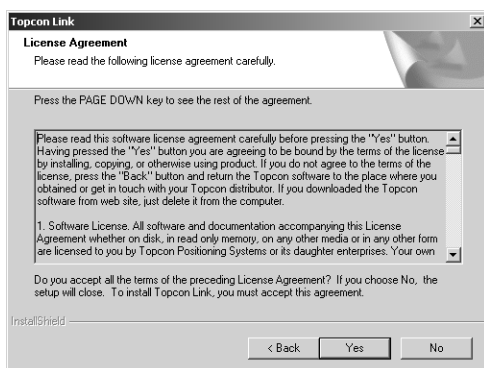

Figure 1-1. License Agreement
3. Press **Yes** on the License Agreement dialog box (Figure 1-1). Clicking No terminates the installation.